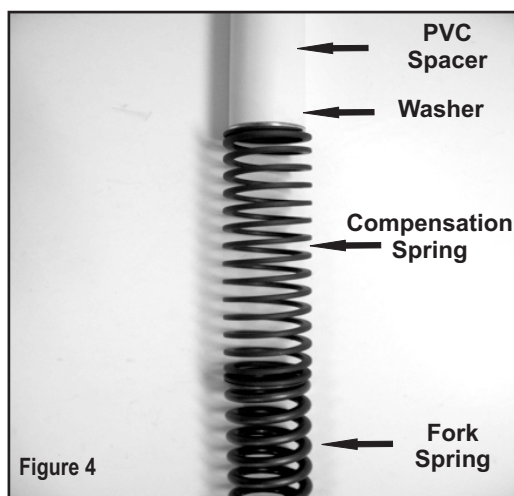

Figure 4
- With the front forks fully extended again, insert the Drop-In Fork Spring into the fork tube, then insert the Drop-In Compensation Spring, Washer and PVC spacer. **Figure 4**